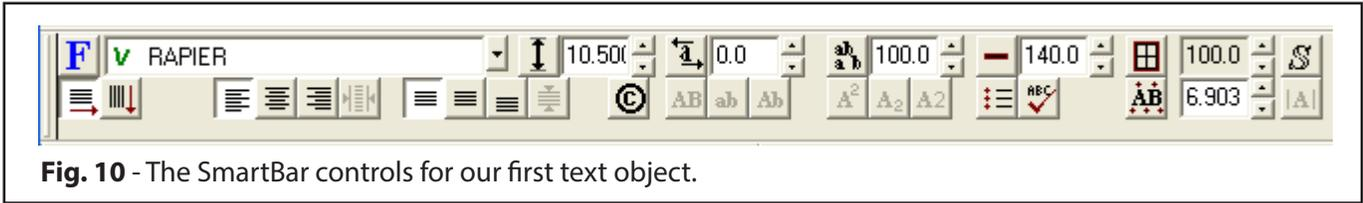

Fig. 10 - The SmartBar controls for our first text object.
4. Double-click the **Font Height** (just to the right of the font name), Type 10.5 and press the **[Enter]** key on your keyboard. The SmartBar should appear as in Fig. 10.